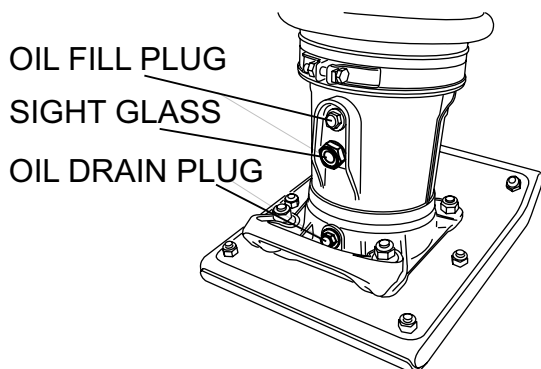

Figure 3. Foot Housing Sight Glass
1. Check the oil level through the oil level sight glass (Figure 3) at the rear of the tamper foot.
2. If oil is not visible, add 10W-30 SE, SF or higher grade motor oil into the oil fill plug opening (Figure 3). The bath contains approximately 0.8 qt. (0.75 liter).